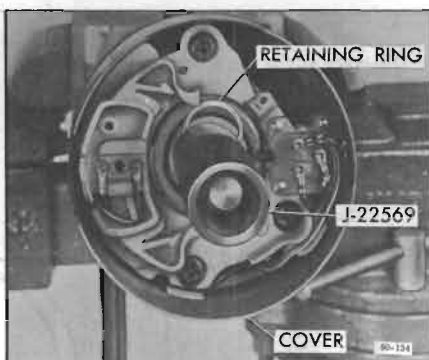
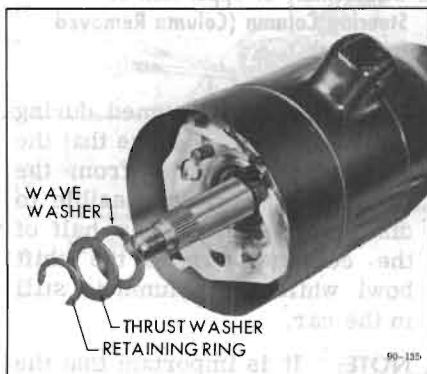

Figure 90-87—Removing Steering Shaft Retaining Ring
Figure 90-88—Partial Disassembly of Upper Half of Steering Column
5. Remove retaining ring from upper portion of steering shaft using special tool J-22569. Index tool into retaining ring opening, twist tool to force retaining ring out of groove and remove ring, thrust washer, wave washer and (if necessary) steering shaft assembly (see Figures 90-87 and 90-88).
2. Remove steering wheel (ref. Par. 90-25), take off retaining ring (see Figure 90-87), thrust washer and wave washer (see Figure 90-88) and withdraw steering shaft out of column.